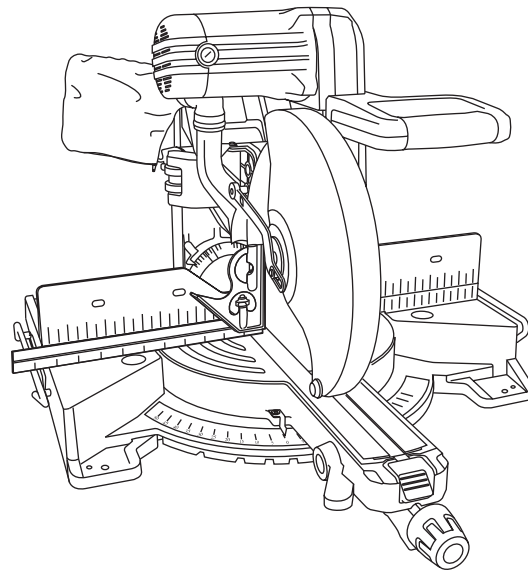

Figure 22
1. Hold the saw head assembly down and push in the head assembly lock pin (item 43 – page 12) to keep the saw in the DOWN position.
2. Slide the head assembly completely to the back and engage the lock lever (item 27 – page 12) by lifting up the finger tab.
8. Use a combination square to check that the blade is 90° (square) to the table. Place the square’s ruler edge against the table and slide it to contact the blade with the vertical side of the square’s head (see Figure 22).
4. Place combination square on table and against blade (see Figure 22).
8. Adjust bevel scale pointers (item 36 – page 12) to be in line with the bevel scale’s 0° lines.